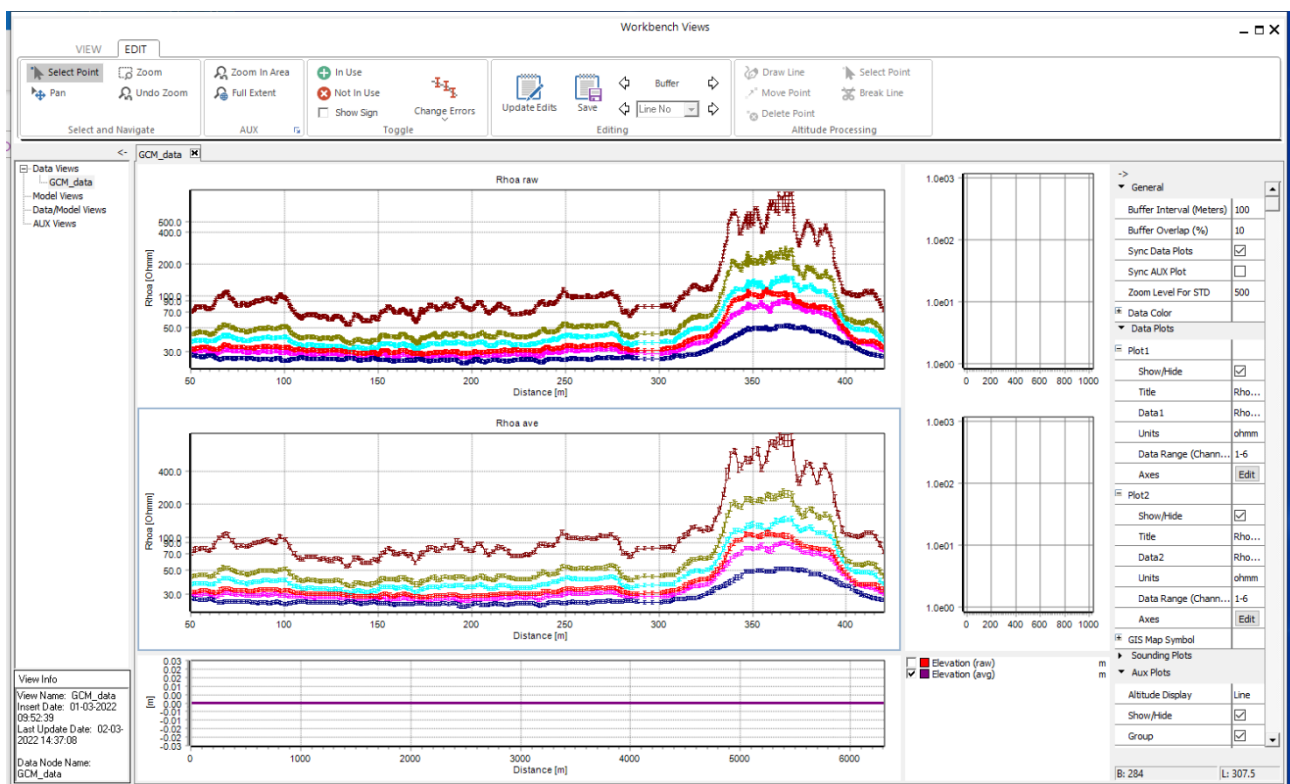

Figure 4
To assess the effect of the automatic filtering and other processing settings highlight the data node in the workspace explorer and select ‘Show and edit’ in the ‘Data processing’ ribbon. The view window shown in Figure 4 will then open. Here you can see raw unprocessed data for all channels in the uppermost “Rhoa raw” plot, and the same channels after processing below in the “Rhoa ave”. The goal is to strike the balance between averaging as much noise as possible out of the data without smearing out the details of the geological features. The view can be modified in an number of ways, use the F1 help for further details.
- The “Aux” or auxiliary plot below the “Rhoa ave” plot, which can be used to show additional information recorded during the survey. In the example in Figure 4 is just shows the elevation of the instrument above the surface, which is constant as this is a ground based GCM survey. But examples of information that can be displayed here is transmitter and receiver temperature, distance above ground and everything else that is recoded during the survey. This can be used during processing to e.g. remove data where some irregularity is detected in the equipment.
Figure 4 above shows a classic example of coupled data between approx. 300 and 450 meters. To remove data select the points by holding down the left mouse button and drag the box around the data, once the points are selected they can be removed by pressing **Alt+Q** to reactivate points press **Alt+A**. Most of the manual processing is usually done in the raw data, because it is easier to see outliers and couplings before they are smeared out by the averaging. And because you can keep more data points this way, as the averaging mixes the couplings and outliers into the signal from the good data points, so more points would have to be removed if processing were done in the averaged data. To see the effect of the processing from the raw data in the averaged data press “Update edits”.